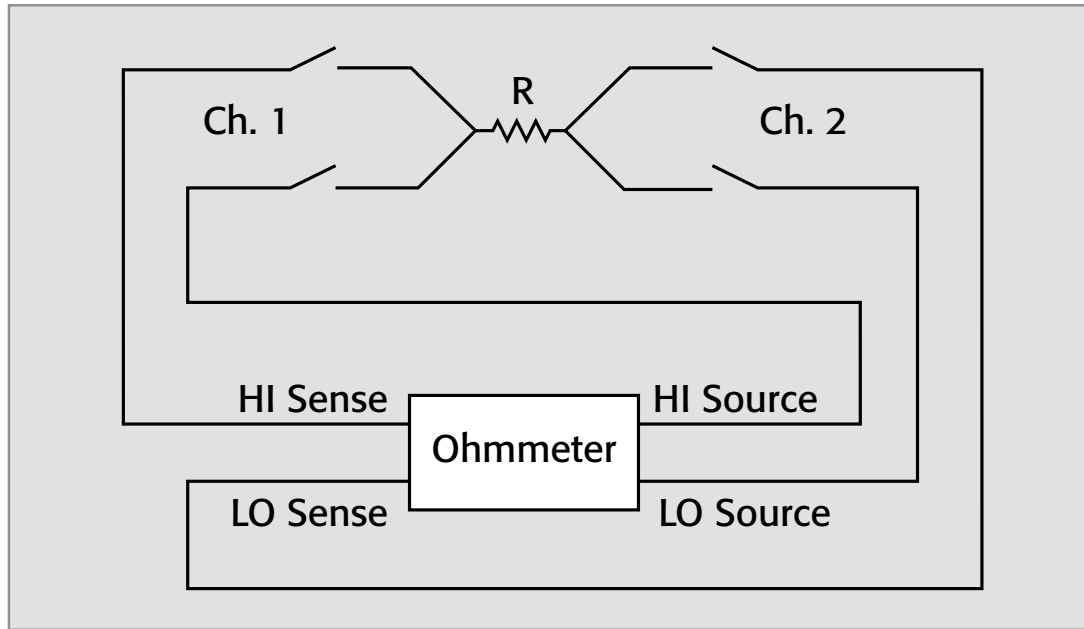
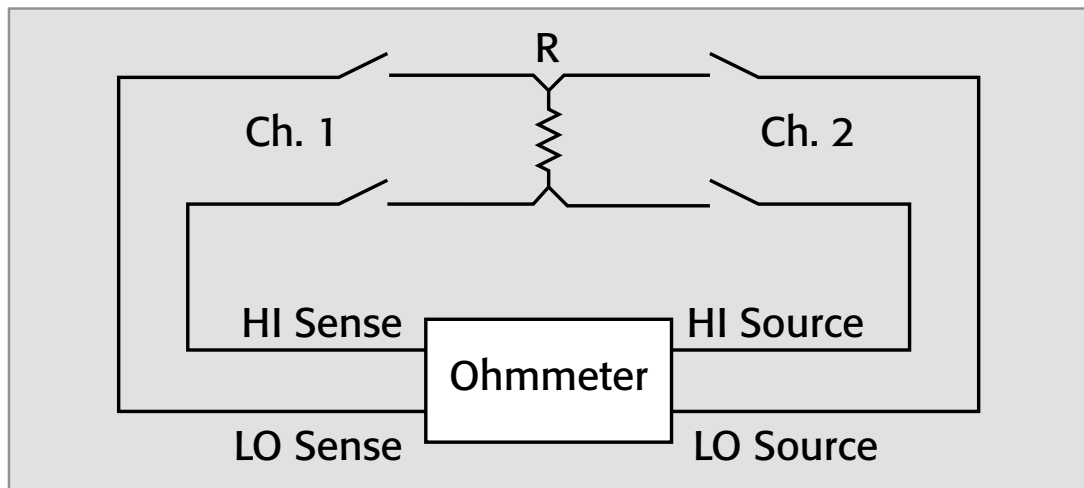

Figure 20a. Offset voltage of Ch. 1 and Ch. 2 will be added to sense voltage
Figure 20b. Offset voltages of Ch. 1 will tend to cancel
resistor (R), as shown in **Figure 20a**, the offsets are not likely to cancel and may actually combine to cause an even greater error. Even a properly connected two-pole switch, like that shown in **Figure 20b**, will have some differential offset voltage that will not cancel out. The error caused by such offset voltage can be virtually eliminated by using offset compensation.